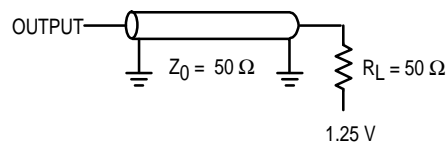

Figure 2. Test Load
Output Load See Figure 2 Unless Otherwise Noted
- Tested per AC Test Load, Figure 2.